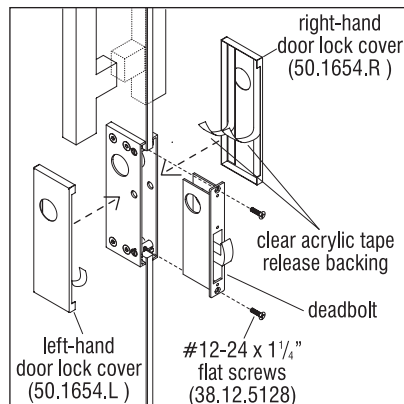

Figure 3
3. Next, test fit the deadbolt unit into the open end of the assembled sliding door lock housing as illustrated. Once in, make sure that the large clearance hole for the lock cylinder aligns with the large threaded hole of the deadbolt. Assure that the mounting holes in the cross dowels are aligned horizontal and twist two #12-24 x $1\frac{1}{4}$ " flat screws (38.12.5128) into the top and bottom most holes (which have countersunk openings) in the edge of the deadbolt. Tighten the screws to secure the deadbolt (Figure 3).
4. Assure that the deadbolt is secured tight, that the door lock housings are flush with the edge of the door leaf, then tighten the four $\frac{1}{4}$ -20 $1\frac{1}{4}$ " flat head socket cap screws (50.1674) from step 1, to clamp the lock housing to the glass door (Figure 3).
5. Once the housing pair with deadbolt is secured, the sliding door lock covers may be applied following the steps below. Use silane glass treatment with a clean towel, and clean both sides of the door lock housing assembly well for proper adhesion. Locate the left (50.1654.L) and right (50.1654.R) sliding door lock housing covers as shown in figure 3. One cover
at a time, peel the release paper from the 2-way tape on the back side of the cover. Align flush to the glass leaf edge while also aligning the cover holes with the door lock housing holes, then adhere each cover to the door lock housing using firm pressure at the tape areas (Figure 3).